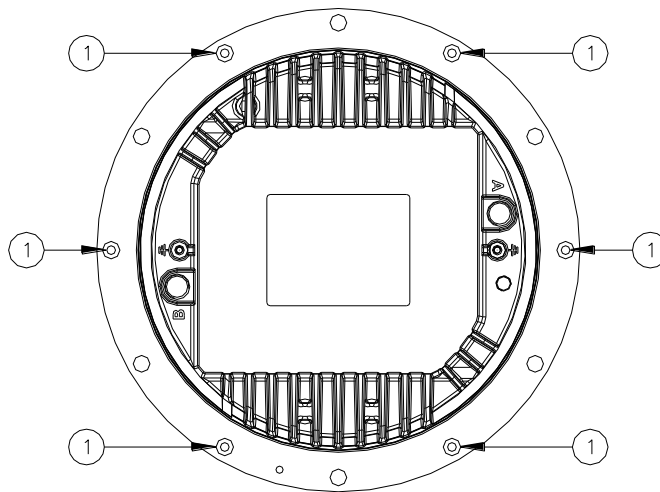

Figure 16 - Lower Cover Fixing Screws
- Open the fixture by unscrewing the six locking screws TORX SFH M5x10 (Figure 16 - n°1).
- six locking screws TORX SFH M5x10 (Figure 16 - n°1);
Verify the correct position of the two O-Ring between dome and lower cover (Figure 18 – n°2 and 3); mount the lower cover on the dome and fasten it by means the six screws TORX SFH M5x10 (Figure 16 - n°1). One drop of anaerobic adhesive lower type (e.g. LOXEAL 24-18) should be applied to the screws before installation; tightening torque is 2.5 Nm.